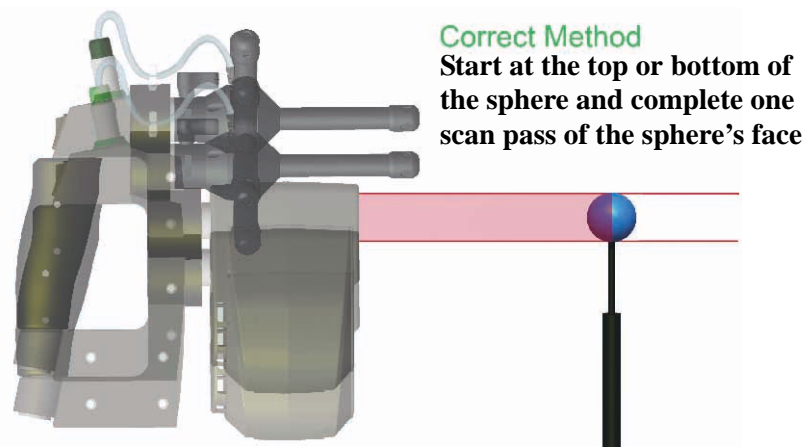

Figure 3-7 Correct Scanning Method for Scan Pass Calibration
When completing a scan pass, use the correct method as shown by Figure 3-7 on page 16.
4. Using Figure 3-7 as your guide, scan the face of the sphere once.